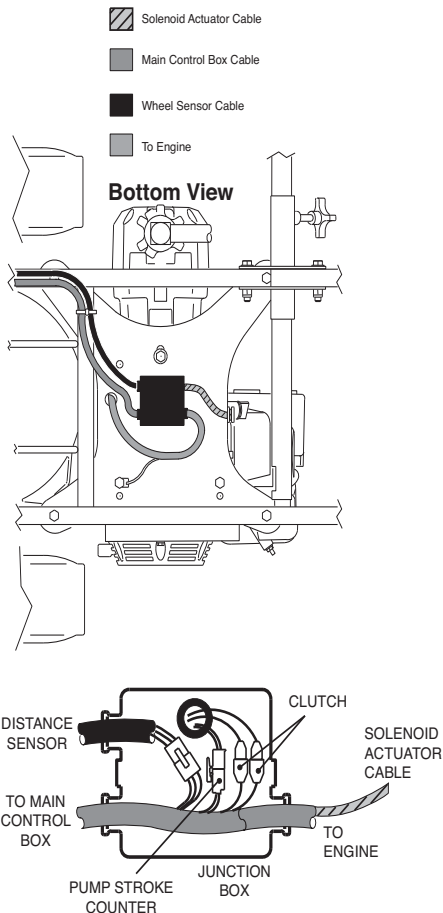
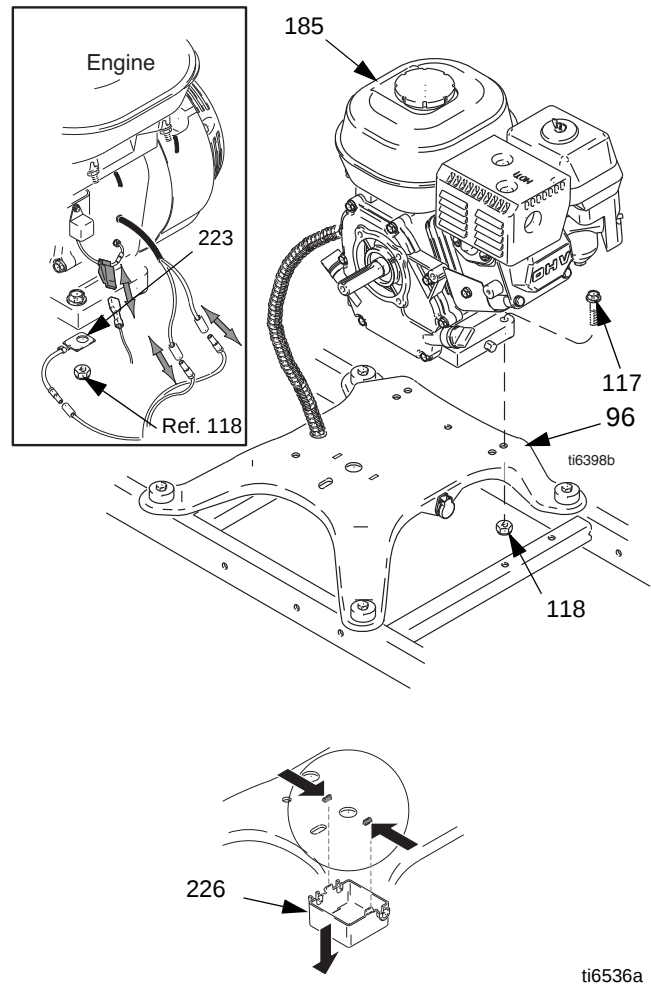

FIG. 11
FIG. 12
2. FIG. 12. Remove junction box (226).
3. FIG. 11. Disconnect pump stroke sensor and clutch cables.
12. FIG. 11. Connect pump stroke sensor and clutch cables.
13. FIG. 12. Install junction box (226).
3. FIG. 11. Disconnect all necessary wiring.
4. FIG. 12. Remove screw (177). Remove two screws (117), locknuts (118), and ground conductor (223, 260) from base of engine (185).
1. FIG. 12. Lift engine carefully and place on engine mount plate (96).
2. Install two screws (117) and ground conductor (223, 260) in base of engine and secure with locknuts (118). Torque to 20 ft-lb (27.1 N•m).
3. FIG. 11. Connect all necessary wiring.